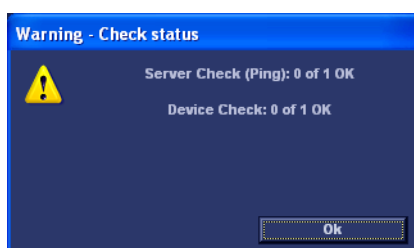

Figure 3-88 Both Tests Failed
- If the Check button fails after a long time (corresponding to the timeout), the Warning will look like the example in Figure 3-88 "Both Tests Failed" on page 3-91, where both tests failed.